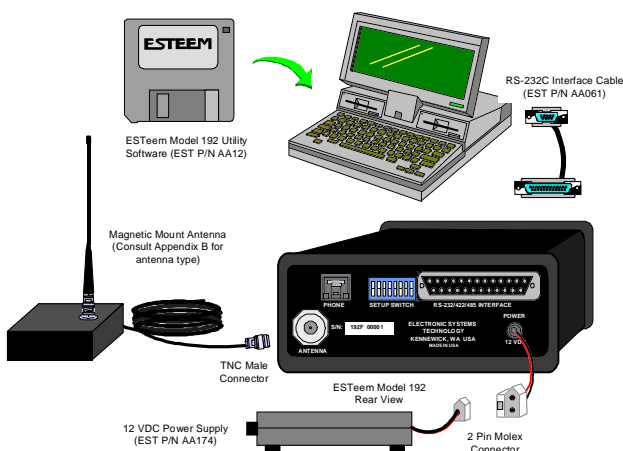

Figure 1: Installation Diagram
2. Insert the 3.5 inch ESTeem Utility Program into drive A. Reference Figure 1.
Note: A standard 9-Pin serial port on a computer to ESTeem interface cable is the ESTeem AA061 (Figure 1).